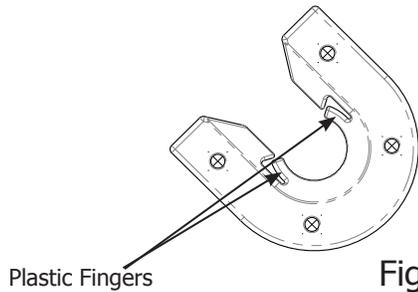

Fig. 7-2
**NOTE:** The poles will snap past the plastic fingers, which are shown in Fig. 7-2.